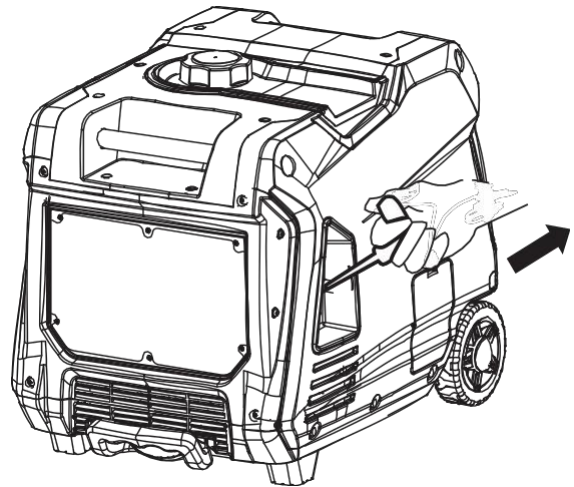

Figure 9: Pull the Recoil Handle out from Inverter 7.
6. Firmly grasp and pull the recoil handle slowly until you feel increased resistance. At this point, apply a rapid pull while pulling out from the inverter (see Figure 9).